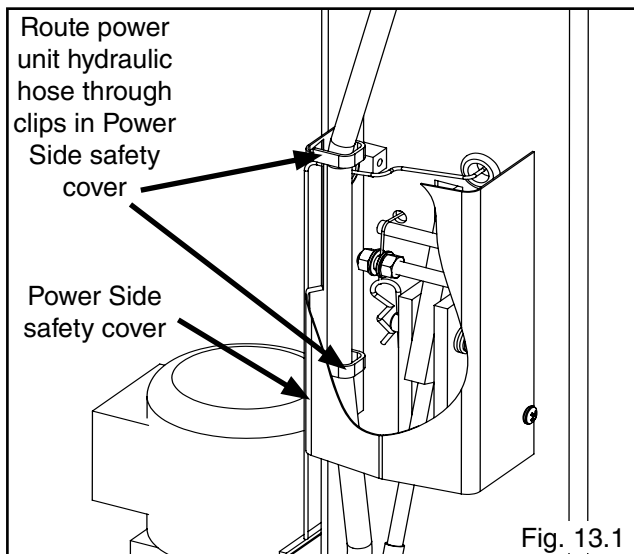

Fig. 13.1
1. With Power Side safety cover loosely positioned route power unit hydraulic hose through clips in Power Side safety cover. (See Fig. 13.1)